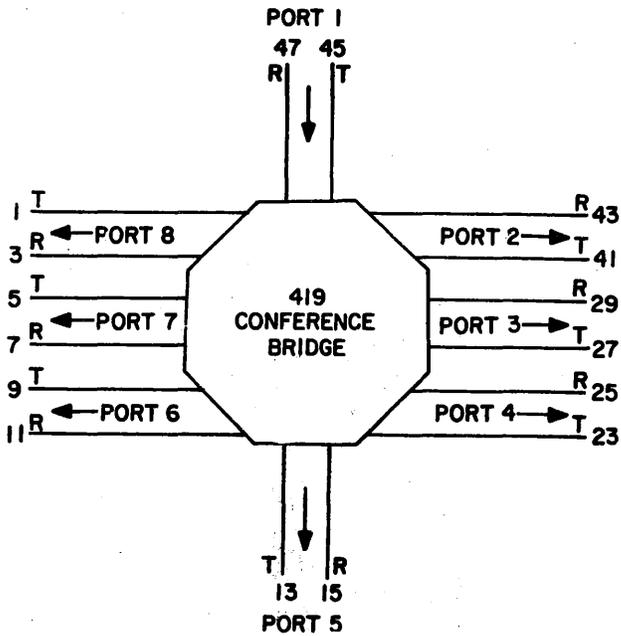

Figure 2. 419 Functional Diagram
2.01 The 419 module provides passive coupling of voice and data circuits by means of a 2-wire/8-way resistive bridge. Refer to the functional diagram in Figure 2 and the schematic diagram in Figure 4 while reading the following description.